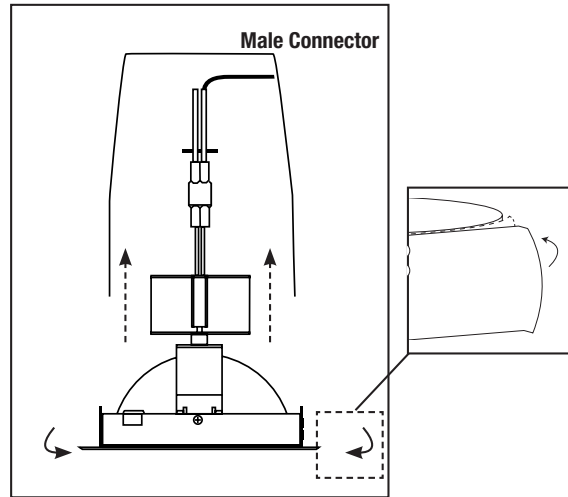

FIGURE 5
2. Squeeze in mounting blade on both side and carefully push fixture into the housing (Fig.5)
5. Squeeze in mounting blade on both side and carefully push fixture into the housing (Fig.5)